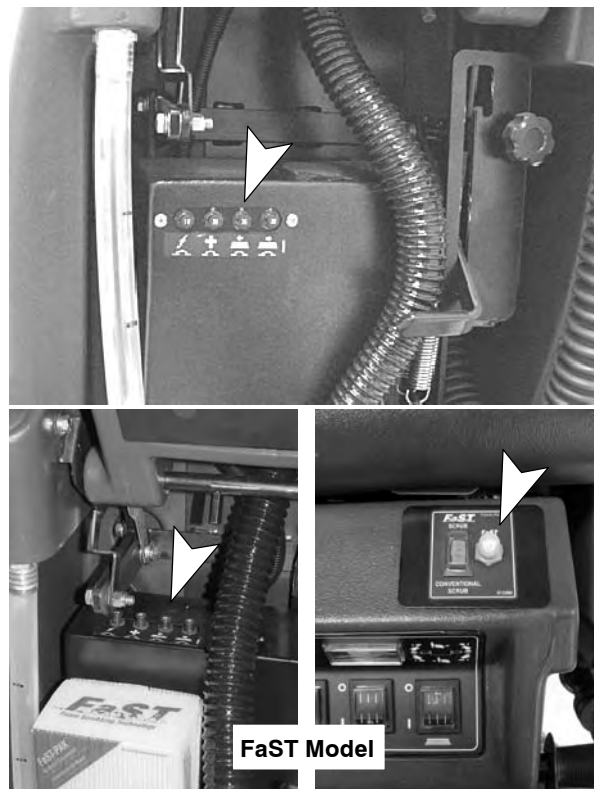

FIG. 24
The machine is equipped with (4) circuit breakers to protect motors from damage. If circuit breakers trip, they cannot be reset immediately. Determine reason why breaker tripped, allow motor to cool and then reset. Brush motor circuit breakers will trip due to excessive overload on pad. Clean or change pad if breaker should trip. Circuit breaker buttons are located at rear of machine as shown (Figure 24).
- 35A Brush Motor Circuit Breaker (2)